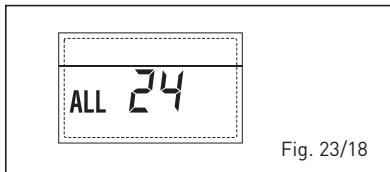

Fig. 23/18
**- SOLAR PROBE ERROR STORAGE TANK (S2) "ALL 25" (fig. 23/19)**